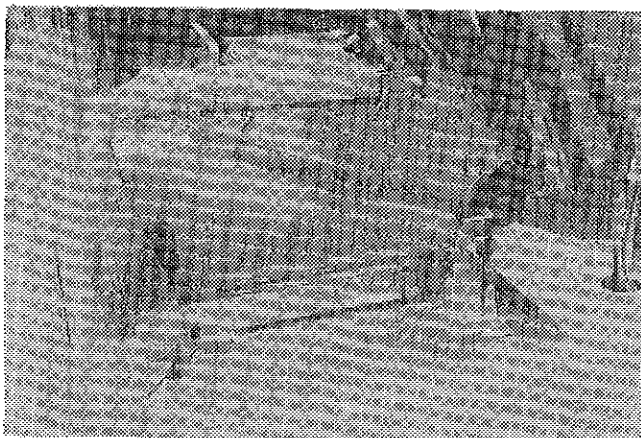

FIGURE 16 - MECHANICAL CLUTCH OPERATION
**MECHANICAL CLUTCH DRIVE:** (see figures 16 & 17) Move the clutch handle ahead and down to engage the augers. Open the unloading door, the eccentric may be used to hold open. When tank is unloaded, reverse procedure.